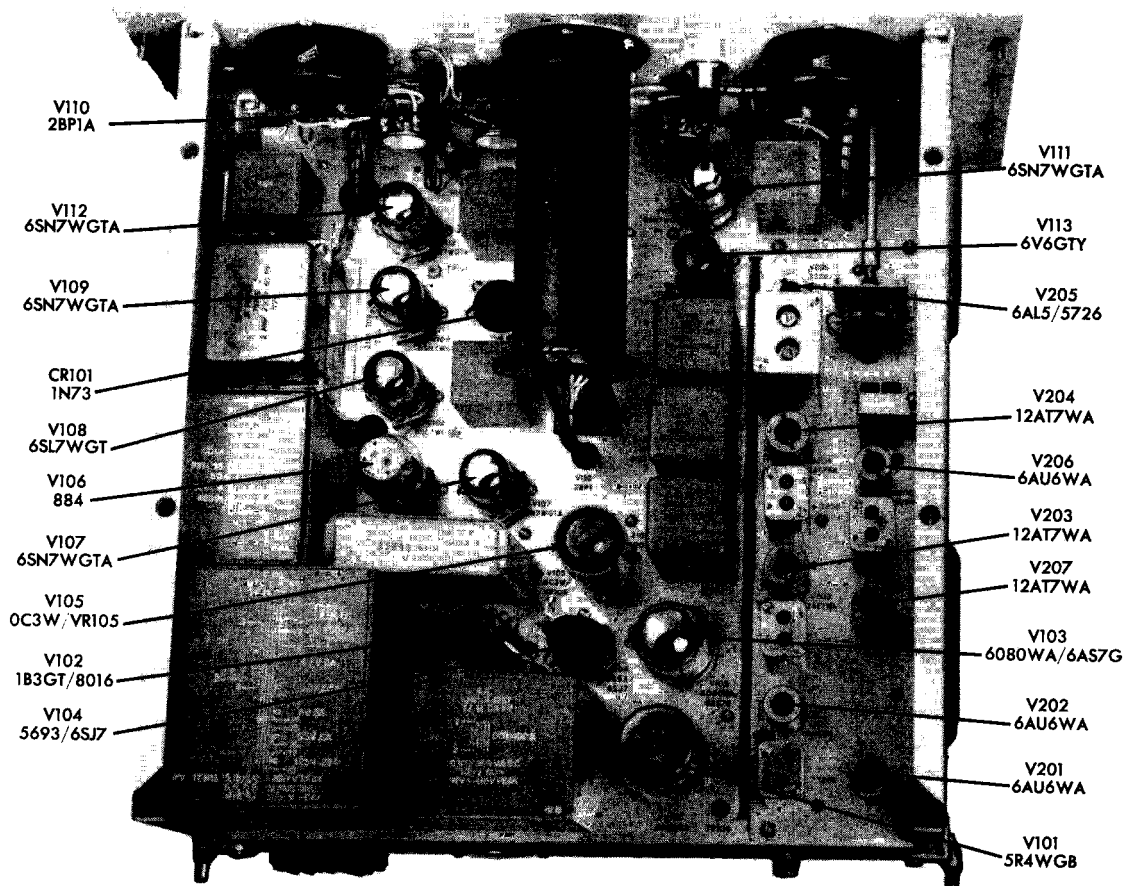

Figure 5-1. Tube Locations
(2) TUBE LOCATIONS.—Locations of the tubes are indicated and identified on figure 5-1.
(3) REPLACING ELECTRON TUBES.—All tubes are readily accessible except the MONITOR CRT which is located in a mu-metal shield. To remove this tube, turn POWER to OFF, loosen the base clamping screw, slide the two slide fasteners in toward the tube base, and slide the clamp back over the wires. The CRT socket may now be removed, and the tube can then be eased back out of the shield.